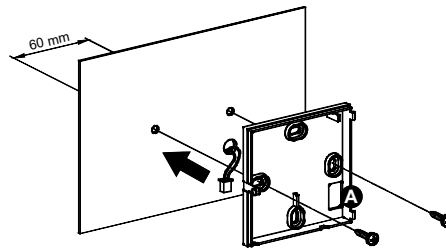

Fig. 5
- 3** Find the best location for the installation (see section 'RADIO SYSTEM CONFIGURATION'), then secure the thermostat base to the wall using the two screw holes with a 60mm. distance (use the screws and/or bolts supplied) after having passed the remote sensor wires (if present) through the rectangular opening (A in Fig. 5).